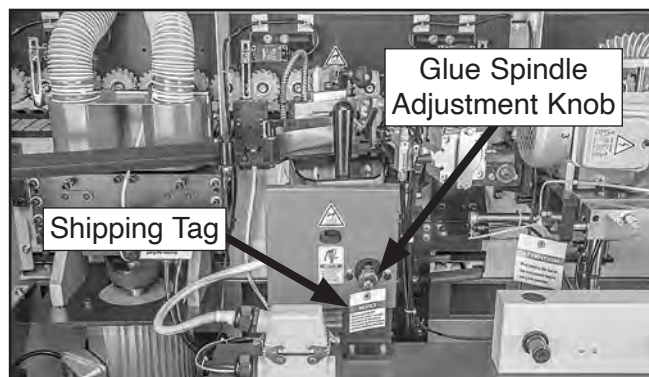

Figure 29. Location of glue spindle adjustment knob.
13. Remove remaining shipping tag, and rotate glue spindle adjustment knob *counterclockwise* all the way to move glue spindle forward (see **Figure 29**).